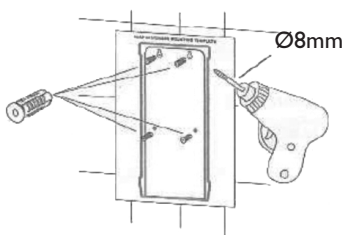

Fig. 1
- › Remove the template and insert 4 wall plugs into the holes (fig.1)